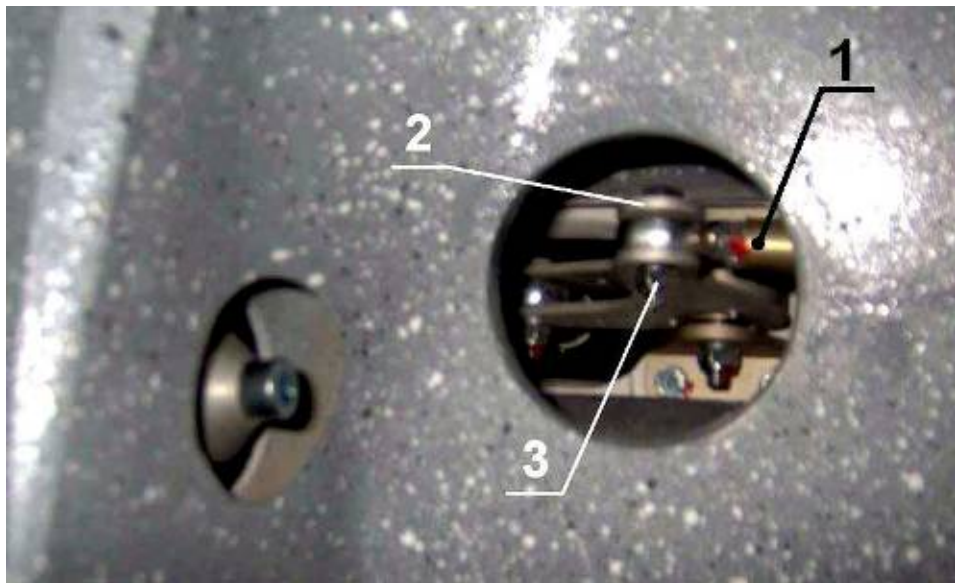

Fig. 57-00-17
17	Match the holes in the tip of the rod (1) with holes of the right wing aileron lever (2) (Fig. 57-00-17).
Aileron connection: Fix the rod (1) in the lever (2) with the bolt M6x30 C9996259A (3). Use only new self-locking nuts M6 (Fig. 57-00-17).